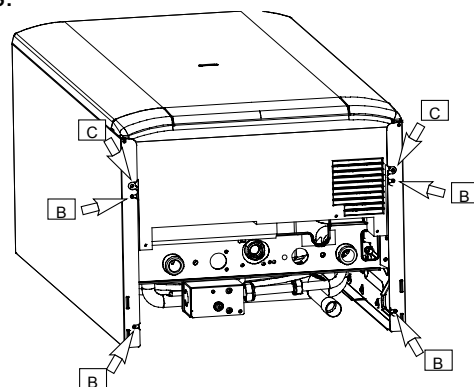
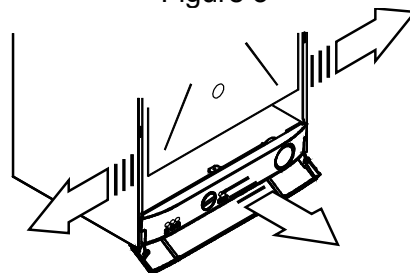

Figure 3
Figure 4
To remove the side panels, remove the screws B (Figure 3) and loosen the screws C (Figure 3), bring the base of the panels away from the boiler (Figure 4) and lift them, freeing them from the top hooks.
- 2) Loosen the screws and B and C (Figure 3).
- 3) Move the lower part of the side panels as indicated in Figure 4 and pull the control panel. When completely pulled out, the panel can rotate 45° downwards to facilitate the service operations on the internal parts.